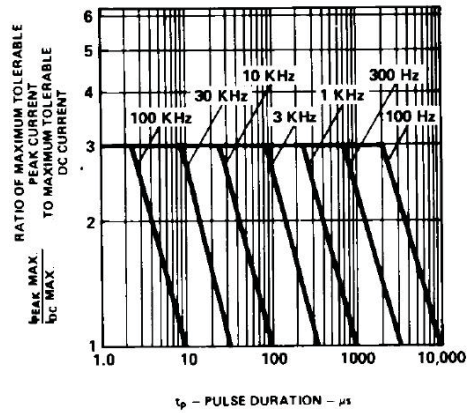

Figure 2. Maximum tolerable peak current vs. pulse duration. ($I_{DC\ MAX}$ as per MAX ratings).
- See Figure 2 to establish pulsed operating conditions.